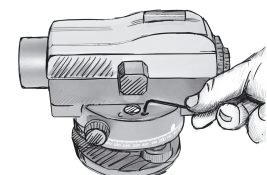

Figure 8
- e) Repeat steps from A to D until the bubble vial doesn't deviate from the center (Figure 8).